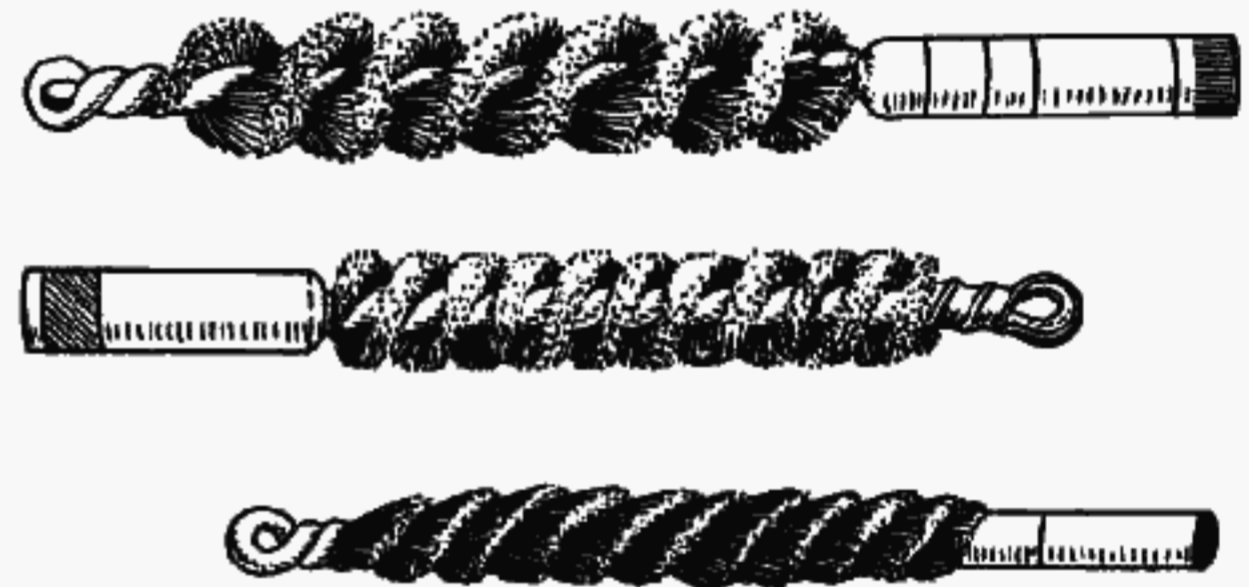

Fig. 162
**PITTED BORE.** If the preliminary scouring with common brass brush does not remove the loose rust, or if the bore seems rather badly pitted and the rust old and hard, try winding on a bit of fine steel wool on the brush. Yes—it will wear the rifle some, and it will round off the sharp edges, too. But not enough that it can be observed with the nude eye, and remember the bore was practically ruined to begin with. Unless the rust can be cleaned out entirely it's no good at all, and drastic treatment in such cases is essential. If the steel wool doesn't help matters, try next a Parker's "Crescent" wire brush made of mild steel wire, dipped in Hoppe's No. 9. If this fails, try a Parker "Dreadnaught" wire brush with either bronze or soft steel bristles, and if results are still lacking, get busy with Parker "Scourer" brush with steel bristles. In my humble opinion, anything that cannot be raked out of a barrel with this last named implement was intended by the good Lord to stay there. The Parker brushes are made in Birmingham, England, and are sold in this country by Paddy O'Hare, 552 Irvington Ave., South Orange, New Jersey. See Figure 162.